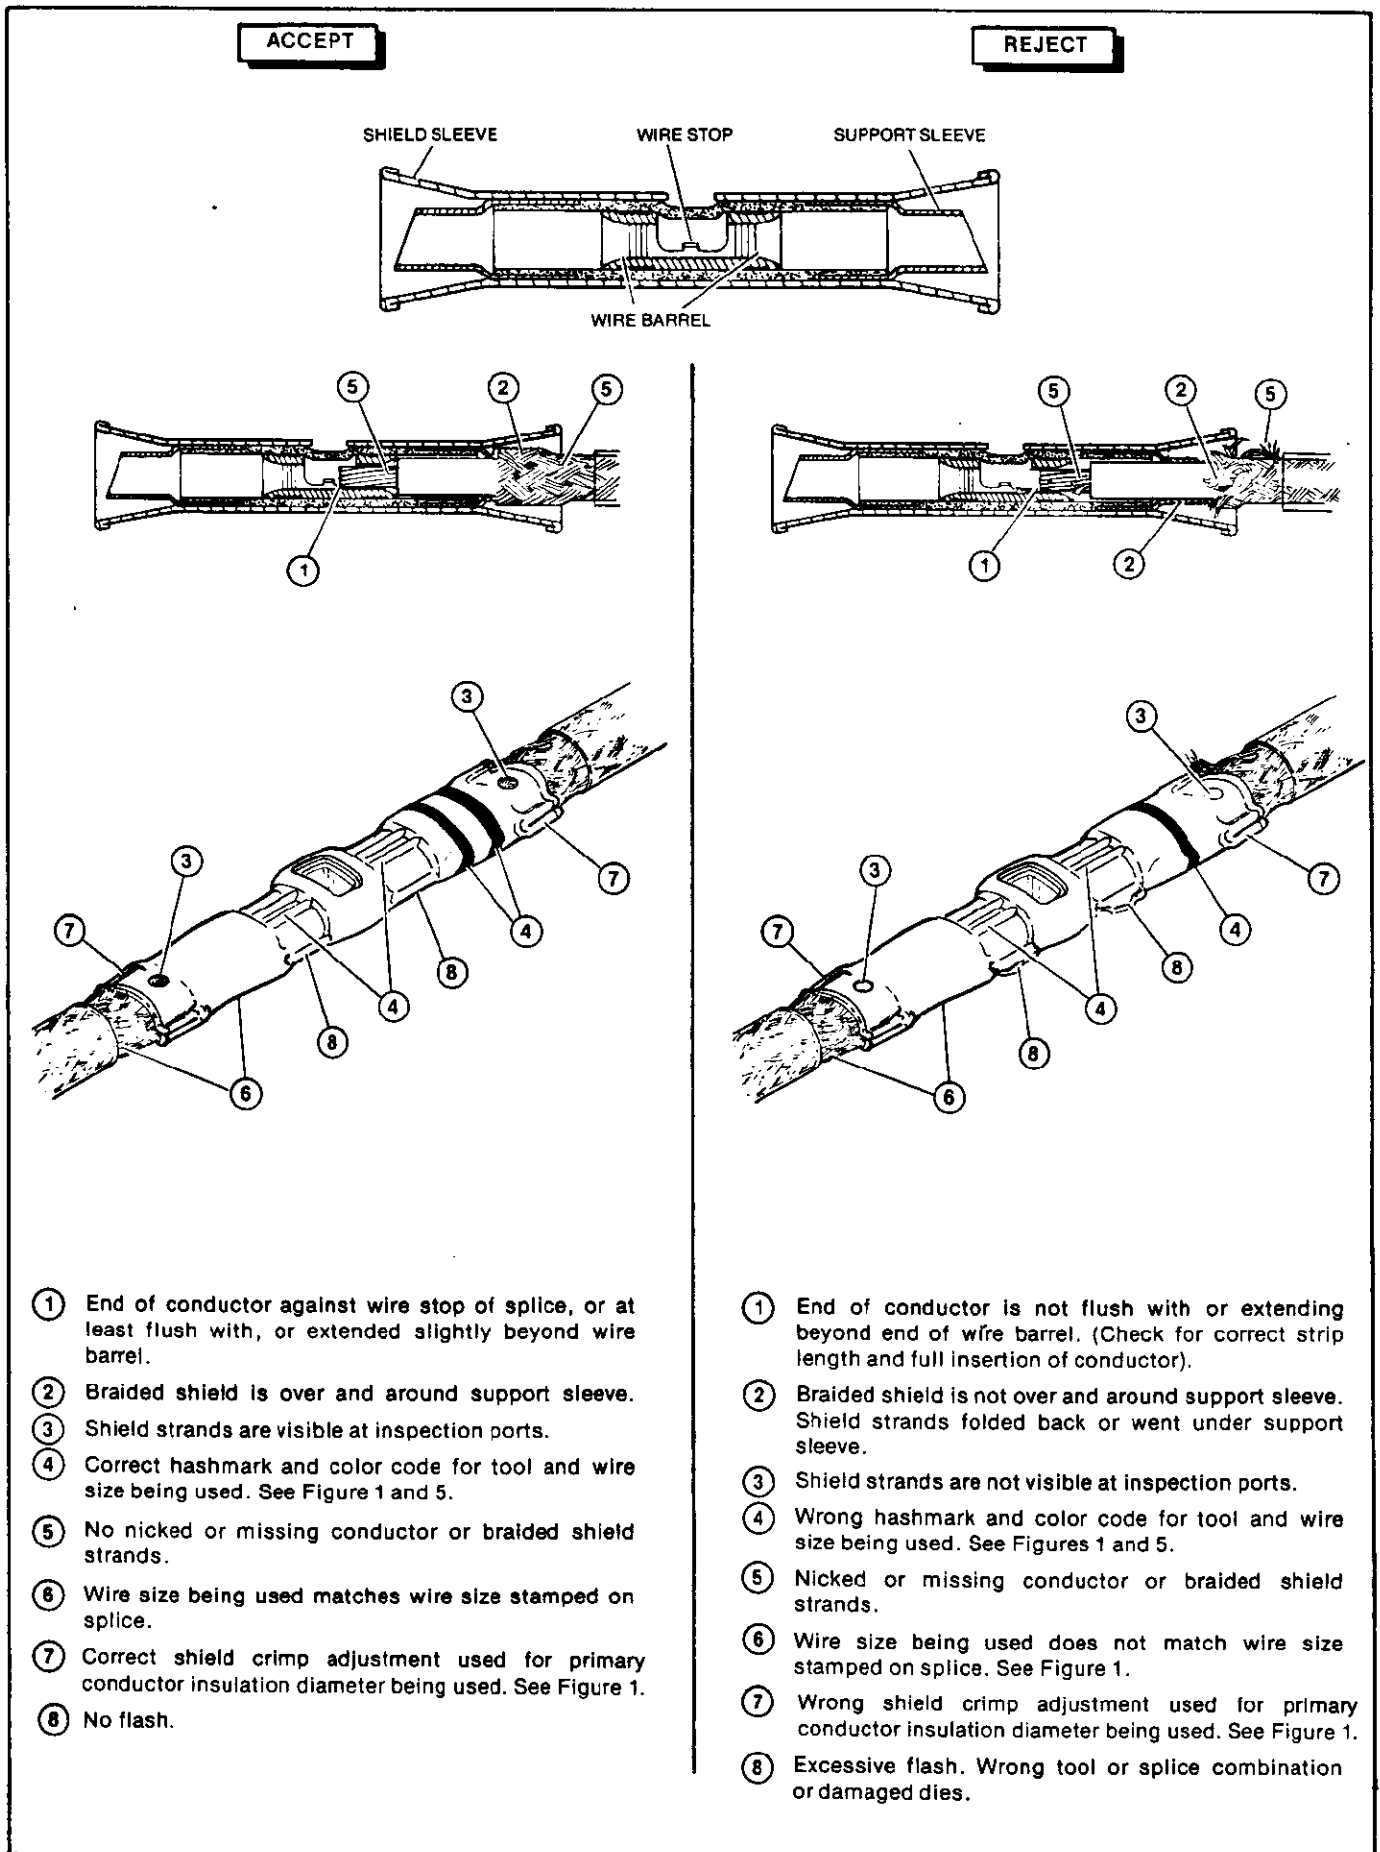

Figure 6
- (i) Refer to Section 4 and Figure 6 for splice crimp inspection procedure.
Inspect crimped splices by checking the features described in Figure 6.